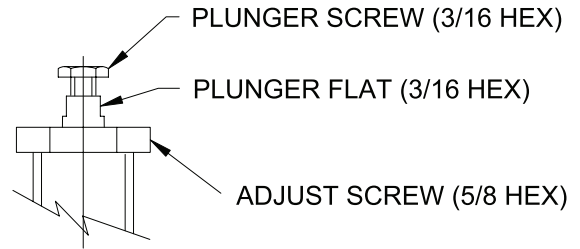

Figure 7
2. Turn 5/8" hex adjustment screw clockwise to approximately midrange. This puts a load on the sensor and exposes the plunger flats. (See Figure 7).